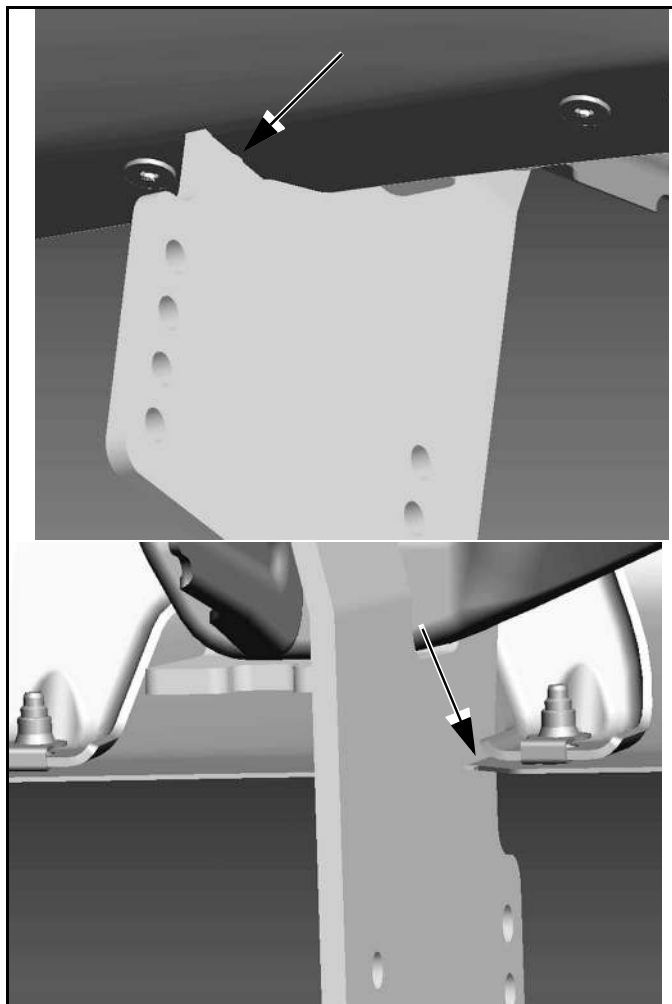
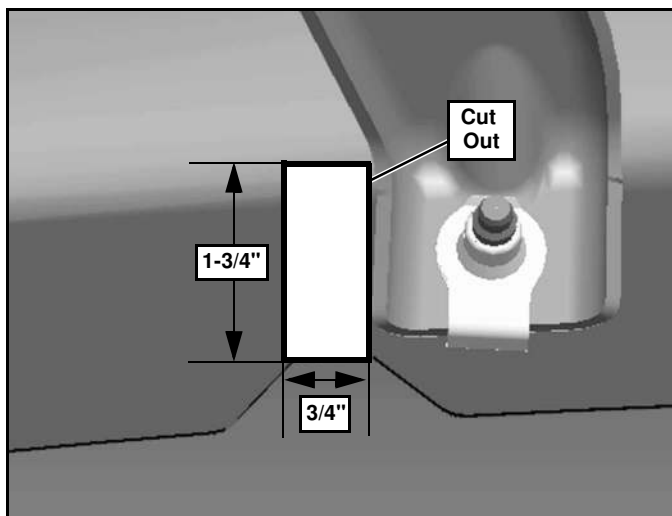

Figure 7
Figure 8
11. Remove the lower valance from the bumper, if equipped. Cut a 1-3/4" x 3/4" slot in the bumper as shown on each side, so the Mounting Weldments (#2 & 3) do not interfere with the bumper. Measure from the edge of the lower bumper bracket and flat edge of the indent. (See Figure 7 and Figure 8.)